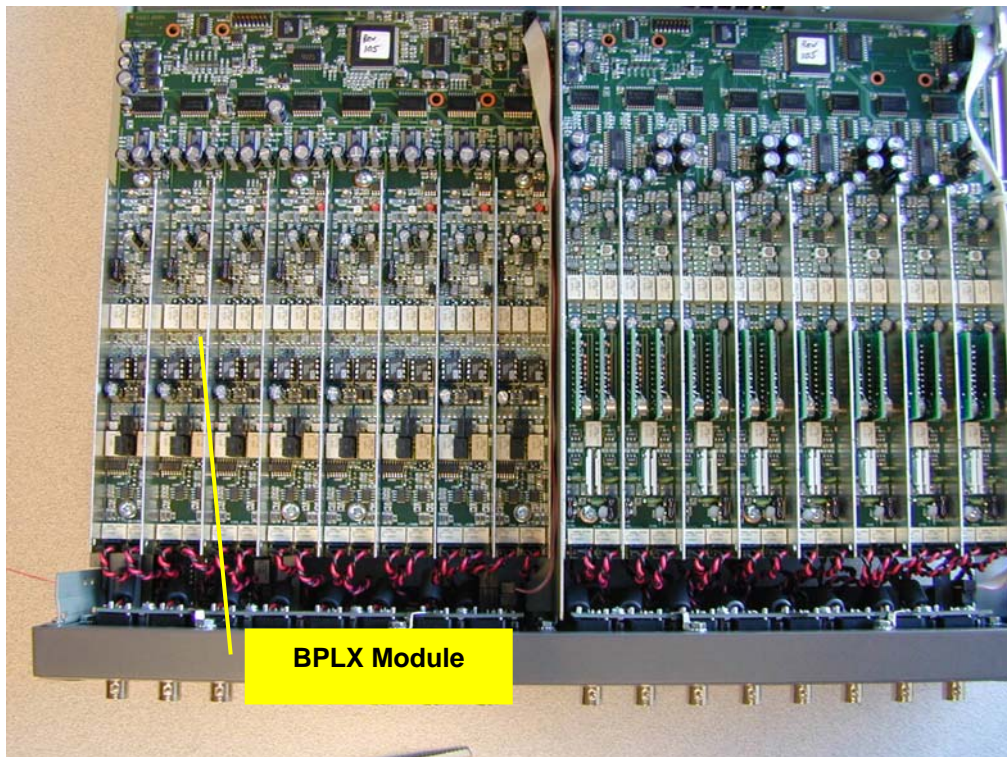

Figure 1 APX-585 instrument with top cover removed
13. When viewed from the front of the APX-585 instrument, the BLPX module is located on the left side, and will have a label with the starting information of “BLPX” (See Figure 1).